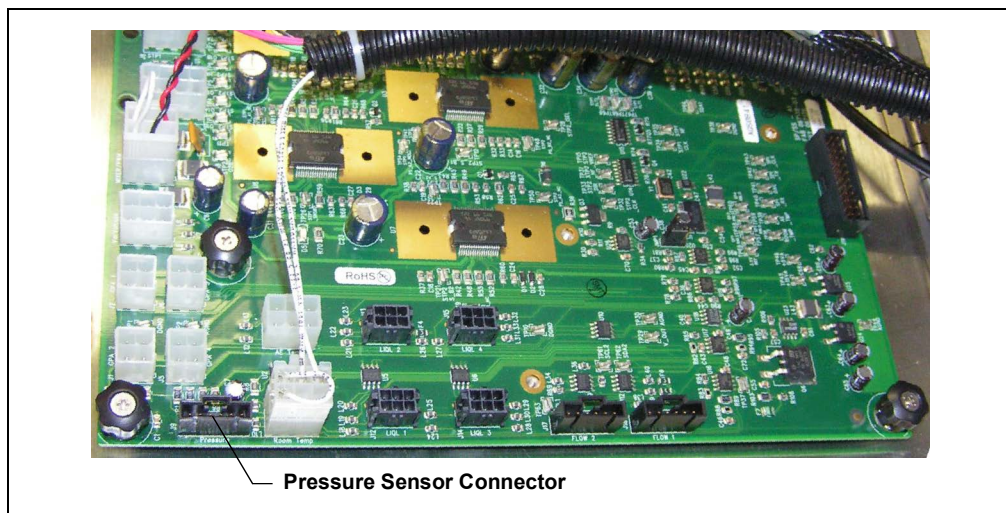

Figure 3-34. Main SP Electronics Board: Pressure Transducer Connector
6. Locate the connector labeled **Pressure** in the lower-left corner of the main SP electronics board (see Figure 3-34).